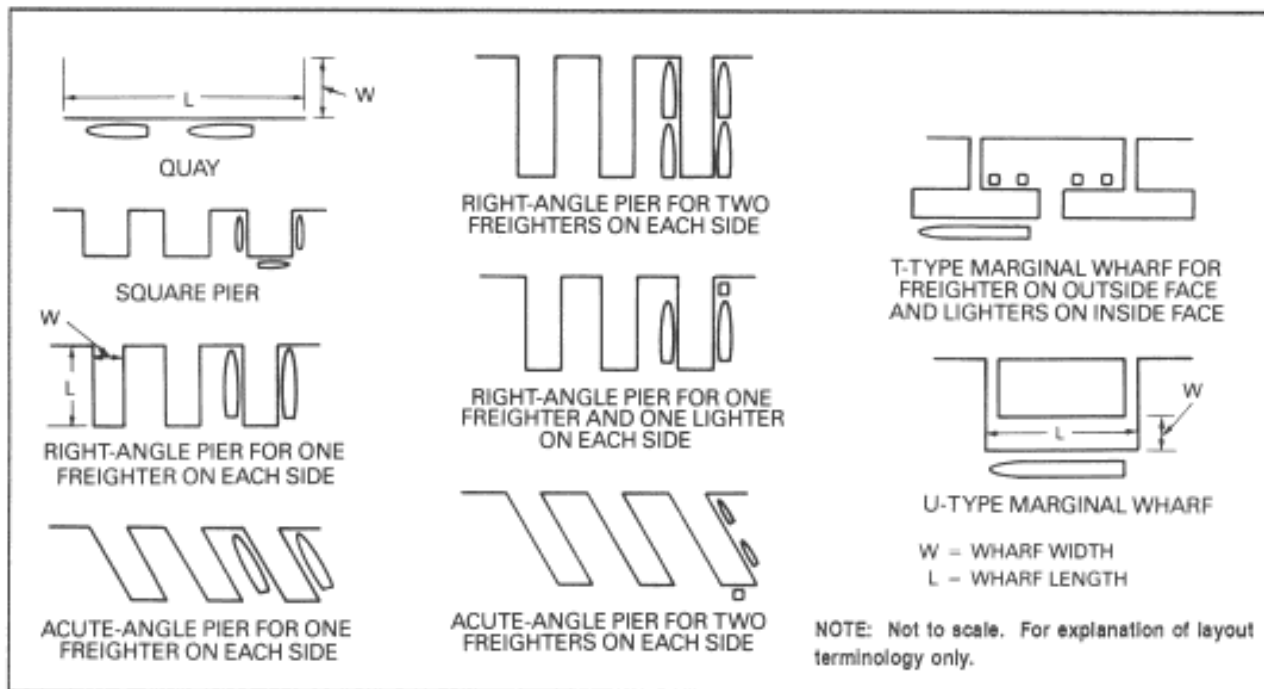

Figure 11-1. Common wharves
*Wharf* is an overall term that applies to any waterfront structure designed to make it possible for vessels to lie alongside the shore for loading and unloading. The term *wharf* is confined in practice to the T- and U-type *marginal* wharves (Figure 11-1, page 11-2). A marginal wharf usually consists of a timber or steel superstructure supported by a series of timber, steel, or concrete pile bents.
The other structures shown in Figure 11-1 are called *piers*, except the *quay*. A quay is a reinforced landing place made toward the sea or at the side of a harbor. All structures shown in Figure 11-1 may consist of fill supported by bulkheads.